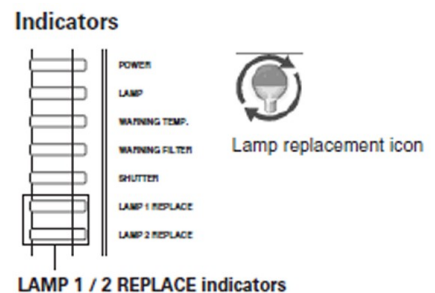

Figure 1 Lamp Replacement Icon
1. Loosen the lamp cover screw (Figure 1-Top) and lift the cover.
2. Loosen the 2 screws (Figure 1-Bottom) that attach the lamp unit to the projector.
3. Use the handles to remove the lamp unit from the projector (Figure 1-Bottom).